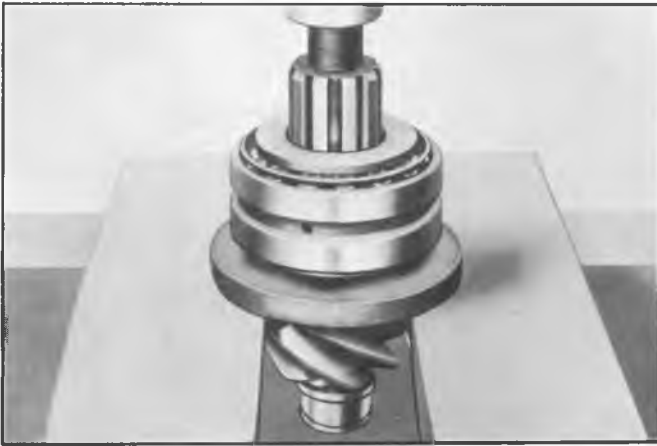

Fig. 7G--Removal Drive Pinion Front Bearing (Typical) (13,500, 15,000 and 17,000)
8. On the 13,500, 15,000 and 17,000 axles, press the pinion front bearing assembly from the pinion as shown in Figure 7G using appropriate tool as follows: